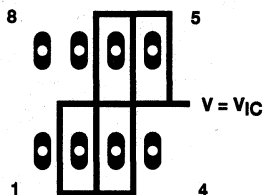
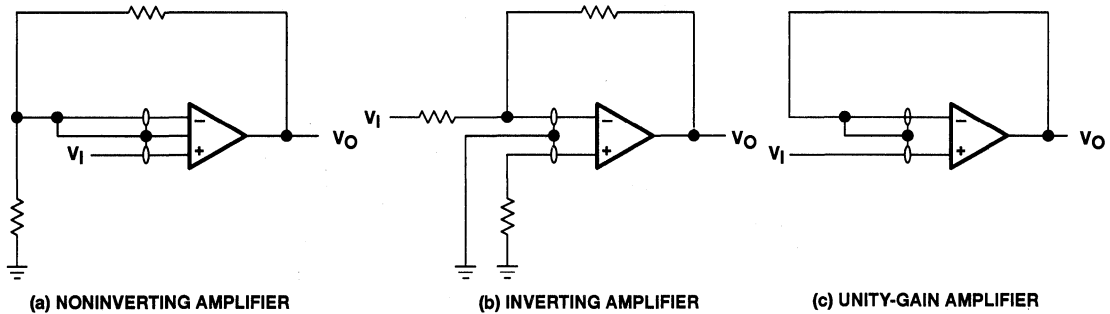

Figure 33. Isolation Metal Around Device Inputs
Figure 37. Guard-Ring Schemes
- Isolate the device from other potential leakage sources. Use a grounded shield around and between the device inputs (see Figure 33). Leakages that would otherwise flow to the inputs are shunted away.
Because of the extremely high input impedance and resulting low bias-current requirements, the TLV2342 is well suited for low-level signal processing; however, leakage currents on printed-circuit boards and sockets can easily exceed bias-current requirements and cause a degradation in device performance. It is good practice to include guard rings around inputs (similar to those of Figure 33 in the Parameter Measurement Information section). These guards should be driven from a low-impedance source at the same voltage level as the common-mode input (see Figure 37).